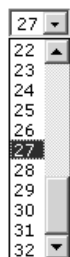

Figure 98. Output Selection Drop Box
- Click the **Output** drop box. A drop down scroll box appears (see figure 98).